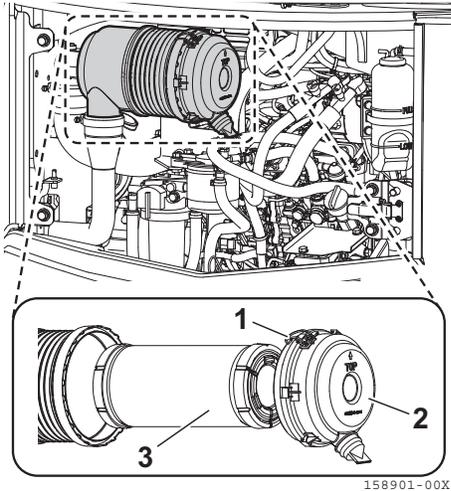

Fig. 8-36
2. Remove the clip (Fig. 8-36, 1) and then the dust cup (Fig. 8-36, 2).
3. Remove the air cleaner element (Fig. 8-36, 3).
4. Clean the dust cup (Fig. 8-36, 2) and the inside of the body.
8. Install the cleaned elements (Fig. 8-36, 3) to the air cleaner case.
9. Install the dust cup (Fig. 8-36, 2) so that the arrow mark will come on the upper side and secure it with the clip (Fig. 8-36, 1).